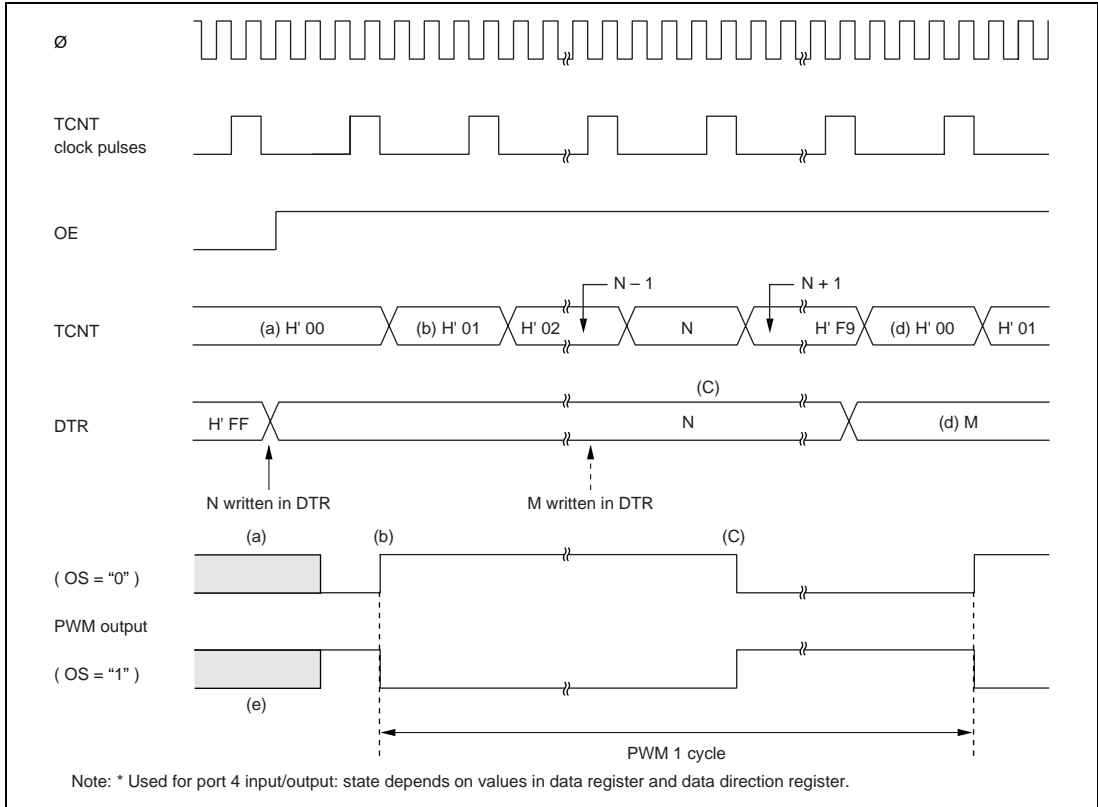

Figure 9.3 PWM Timing
Figure 9.3 is a timing chart of the PWM operation.
(1) Positive Logic (OS = "0")
① **When (OE = "0") – (a) in Figure 9.3:** The timer count is held at H'00 and PWM output is inhibited. [Pin 4₆ (for PW0) or pin 4₇ (for PW1) is used for port 4 input/output, and its state depends on the corresponding port 4 data register and data direction register.] Any value (such as N in figure 9.3) written in the DTR becomes valid immediately.
② When (OE = "1")
- i) The timer counter begins incrementing. The PWM output goes High when TCNT changes from H'00 to H'01, unless DTR = H'00. [(b) in figure 9.3]
- ii) When the count passes the DTR value, the PWM output goes Low. [(c) in figure 9.3]
iii) If the DTR value is changed (by writing the data “M” in figure 9.3), the new value becomes valid after the timer count changes from H'F9 to H'00. [(d) in figure 9.3]
(2) **Negative Logic (OS = “1”) - (e) in Figure 9.3:** The operation is the same except that High and Low are reversed in the PWM output. [(e) in figure 9.3]